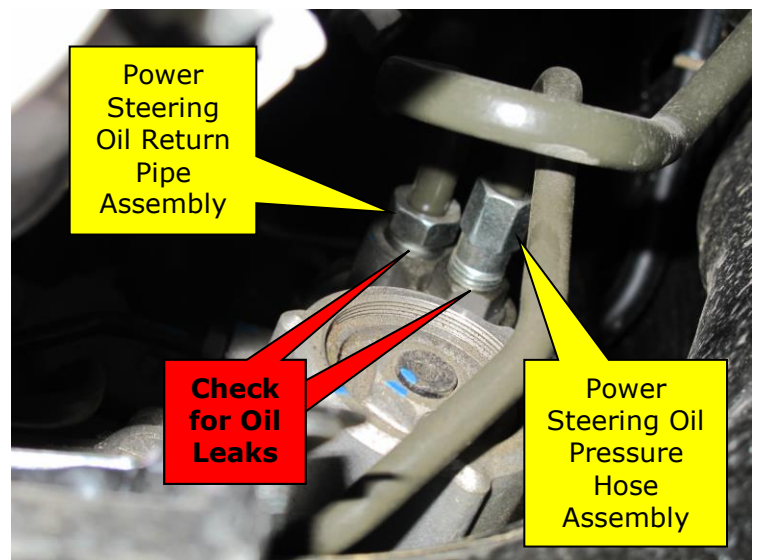

Figure 5
6. Inspect for **LEAKS** again between the Steering Gear and Power Steering Oil Return Pipe and Power Steering Oil Pressure Hose connections (Figure 5).